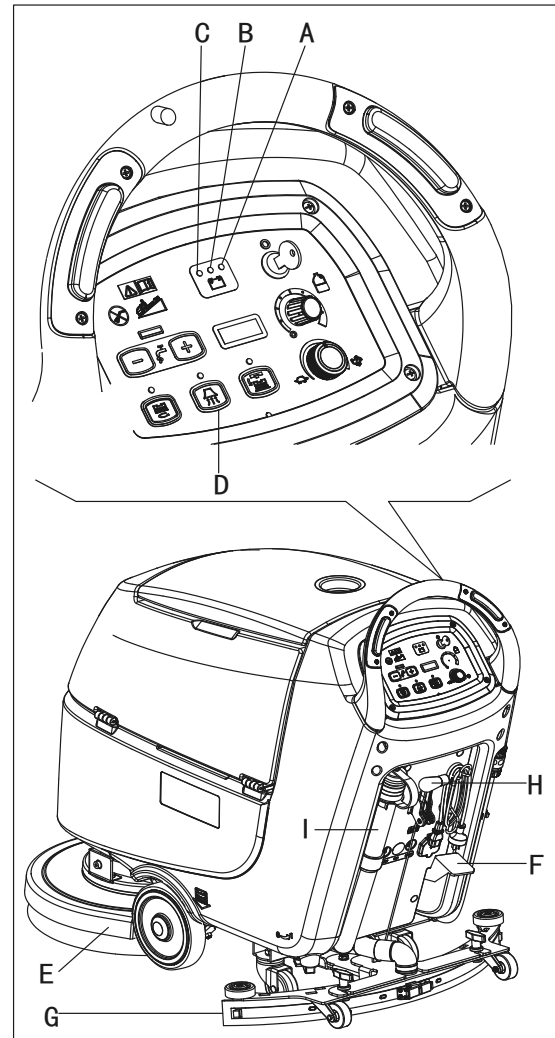
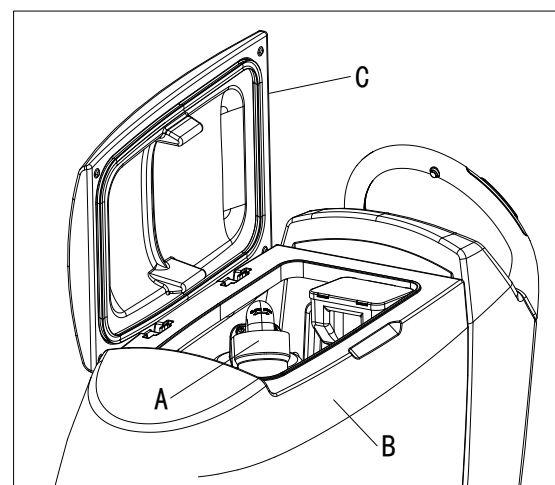

Figure 12
Figure 13
Until the green warning light (A, Figure. 12) stays on, the batteries allow the machine to work normally. When the green warning light (A) turns off, and the yellow warning light (B) turns on, it is advisable to charge the batteries, because the remaining charge will last for a few minutes (depending on battery characteristics and work to be performed). When the red warning light (C) turns on, batteries are fully discharged. After a few seconds, the brush/pad-holder is automatically tuned off, while (only for machine with traction) the drive system stay on, to finish drying the floor and drive the machine to the appointed recharging area.
An automatic float shut-off system (A, Figure. 13) blocks the vacuum system when the recovery water tank (B) is full. The vacuum system deactivation is signaled by a sudden increase in the vacuum system motor noise frequency, also the floor has not dried.
**If the vacuum system turns off accidentally (for example, when the float is activated because of a sudden machine movement), to resume the operation: turn off the vacuum system by pressing the switch (D, Figure. 12), then open the cover (C, Figure. 13) and check that the float inside the grid (A) has gone down to the water level. Then close the cover (C) and turn on the vacuum system by pressing the switch (D, Figure. 12).**
When the recovery water tank (B, Figure. 13) is full, empty it according to the following procedure.
2. Lift the brush/pad-holder deck (E, Figure.12) by pressing the pedal (F). (only for disc machine)
3. Lift the squeegee (G) with the lever (H).
5. Empty the recovery water tank with the hose (I). Then, rinse the tank (B, Figure. 13) with clean water.